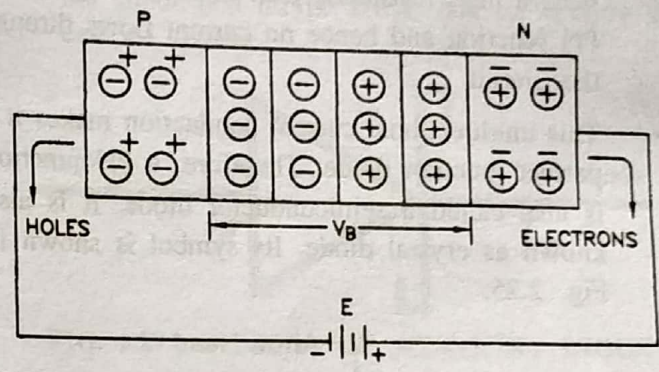
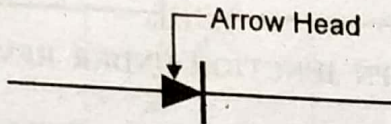

FIG. 2.24 : PN JUNCTION UNDER REVERSE BIAS
FIG. 2.25 : SYMBOLIC REPRESENTATION OF JUNCTION DIODE
When the positive terminal of a d.c. source or battery is connected to N-type and negative terminal is connected to P-type semiconductor of a PN junction as shown in Fig. 2.24 the junction is said to be in reverse biasing.
- Under applied reverse bias as shown in Fig. 2.24 holes which form the majority carriers of the P-side move towards the negative terminal of the battery and electrons which form the majority carriers of the N-side are attracted towards the positive terminal of the battery.
(3) Practically no current flows in the circuit but a little current (in microamperes) flows through the junction because of minority carriers available even at room temperature.
- This unidirectional current conduction makes it a perfect junction diode. Therefore, a PN junction is also called a semiconductor diode. It is also known as crystal diode. Its symbol is shown in Fig. 2.25.